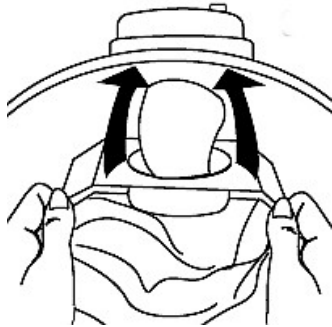

Fig. 5: Assembly of the filter
- If the paper / cloth filter is intended to be used, insert it into the container by pulling it onto the plate (Fig. 5).